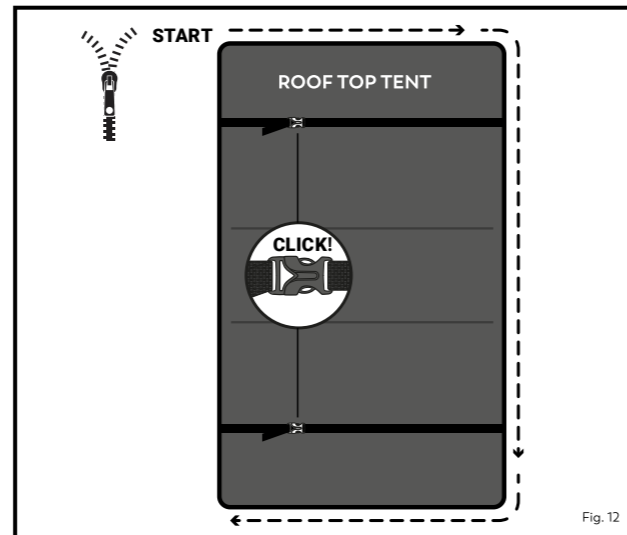

Fig. 12
5.2 Use the surrounding part of the zip on the rain cover with the corresponding part of the zip on the roof tent to fasten the rain cover (see Fig. 12).
5.3 Place the two straps over the roof tent and rain cover, close the fasteners and tighten the straps (Fig. 12). Your roof tent is now ready to drive and use.